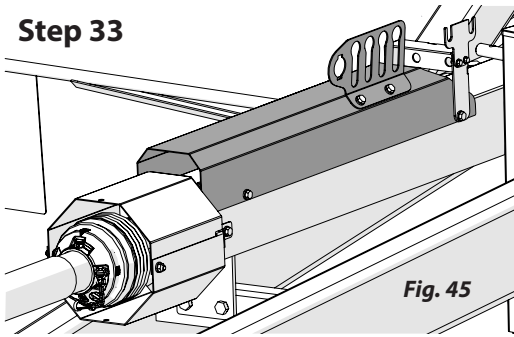

Fig. 45
- Use (2) M10 x 25 hex bolts on the front half of the hydraulic hose conduit.
- Use (2) M10 x 25 hex bolts on the back half of the hydraulic hose conduit after lining up the pneumatic bracket as well shown in figure 45.
- Pneumatic hose holder is bolted onto the pneumatic bracket with (2) M6 x 16 hex bolts and nuts.